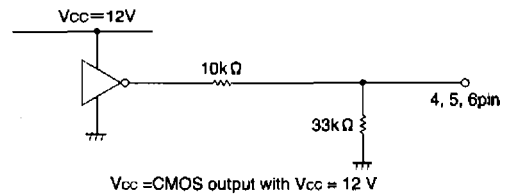

Fig.7
(1) Though the IC input pins can be directly connected with MOS output pins, it is recommendable to connect resistors of about 3 ~ 30kΩ between the pins for the sake of pin protection (see Fig. 7).
(2) When reversing the rotational direction of a motor, make sure to go through the brake mode in-between the opposite directions. It is recommendable to keep the brake mode for at least 10 μs.
(3) Powering procedures should be designed so that V_{CC1} (pin 7) always rises first and falls last.